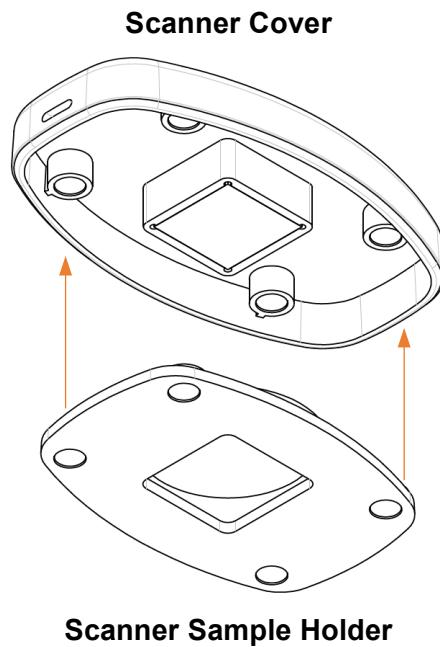

Figure 2: Attaching the sample holder to the Scanner cover
- C. **Scanner Sample Holder:** A holder for samples like soil, feed, powders, etc, Most times the Scanner will be used without the sample holder. It is magnetically attached to the Scanner cover and needs to be detached from it when used (Figure 2). The sample holder can be magnetically attached and aligned on the Scanner top surface to hold the sample during scanning.